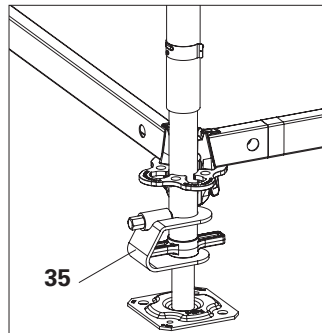

Fig. A3.04a
6. If movement by crane is envisaged, fit Spindle Locking UJS (**35**). (Fig. A3.04a)